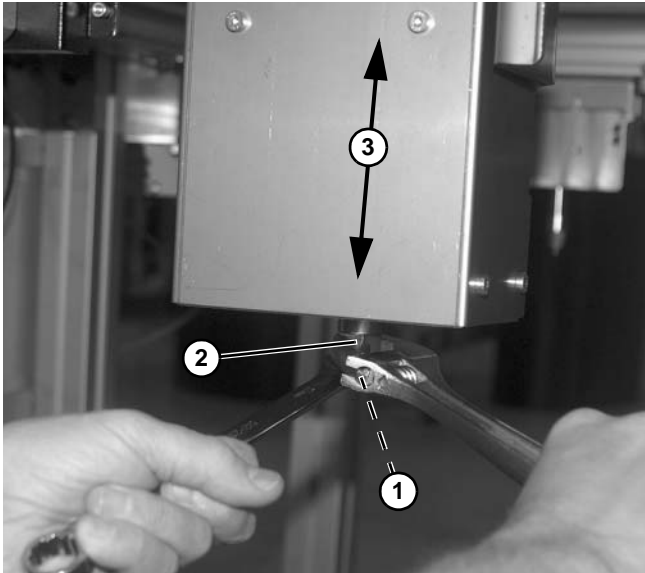

Figure 93
2. To adjust stroke, loosen jam nut (**Figure 93, item 1**) from large nut (**Figure 93, item 2**) on the bottom of cylinder shaft.
3. Turn large nut (**Figure 93, item 2**) clockwise or counterclockwise to raise or lower (**Figure 93, item 3**) pallet assembly as needed.